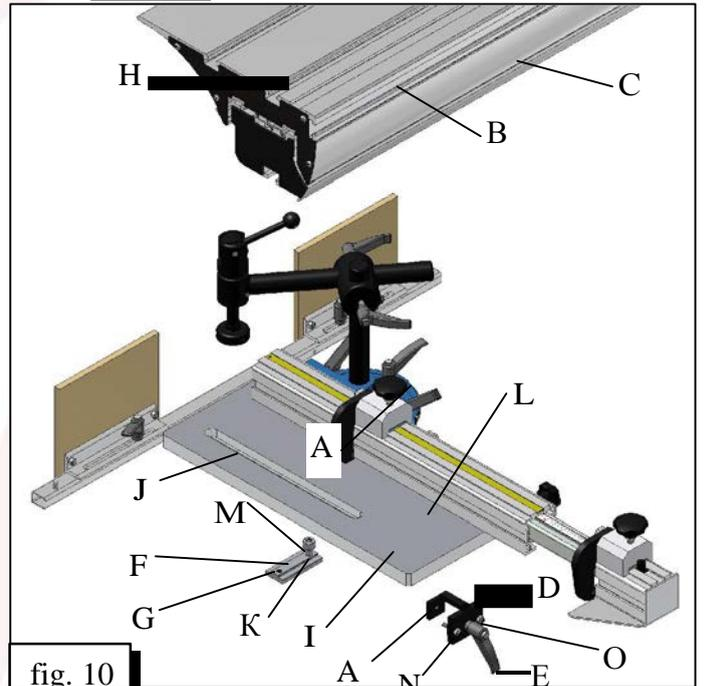

fig. 10
- insert nut A in the lateral T-shaped groove B of the format board C (fig. 10).